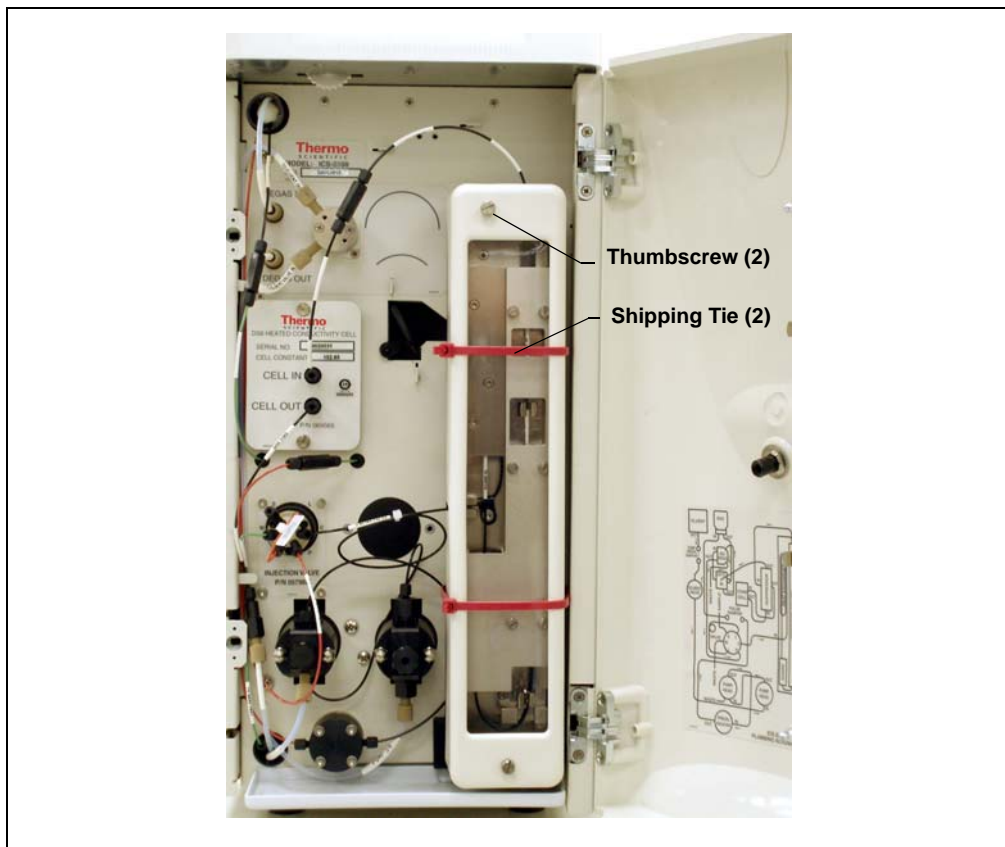

Figure 26. Column Heater with Shipping Ties
1. Cut off the two shipping ties from the column heater and remove them (see Figure 26).